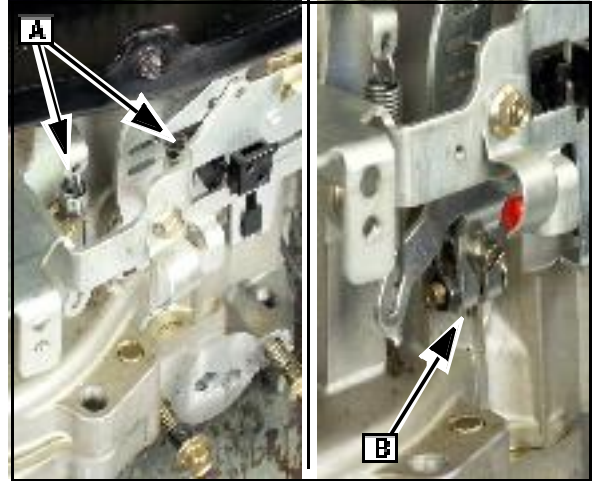

Fig. 13
- Remove the links and springs from the governor lever ([A] Fig. 13).
- Loosen governor lever screw and nut ([B] Fig. 13).